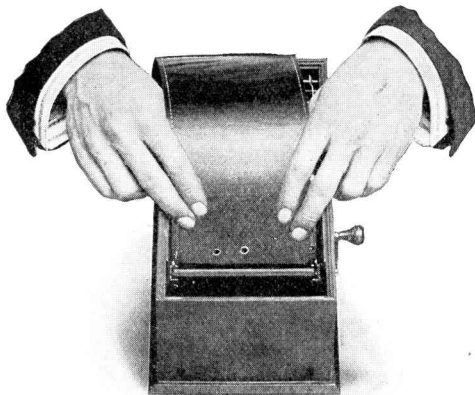

FIG. 2
4. Attach one end of the apron to spindle through which axle "C" passes by means of the metal hooks which are to be engaged with the lugs on the spindle (Fig. 2.) The corrugated